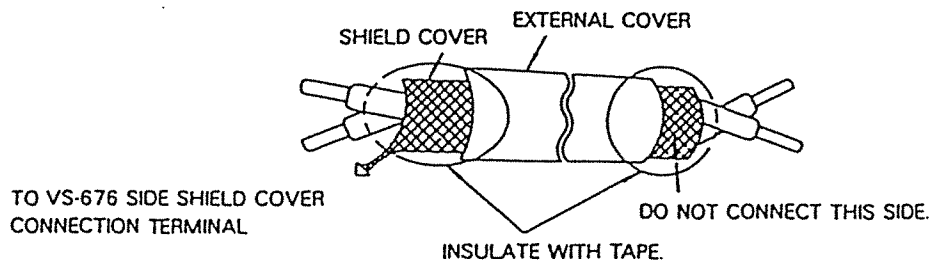

Fig. 4.1 Modification of the end of the twisted shielded cables
- (1) The control circuit (terminals ① to ⑬, ⑰ to ⑳) must be wired separately from the main circuit (㊿㊿㊿㊿㊿㊿㊿㊿㊿㊿) and other power lines.
- (2) When using an individual power supply for the control circuit terminals ⑨ to ⑬, ㉑ ㉒ (contactor output) separate ① to ⑧ and ⑰ to ㉓.
- (3) Use twisted shielded cables and twisted pair shielded cables for the control circuit. Modify the ends as shown in Fig. 4.1 (to avoid interference caused by noise). The cable must be 50m or less.